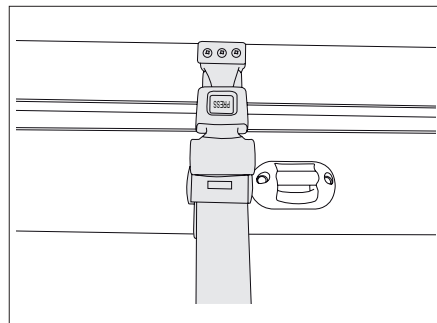

Fig. 97 Safety belt
- Loosen the retaining belt (Fig. 97).
- Attach the retaining belt (Fig. 97).